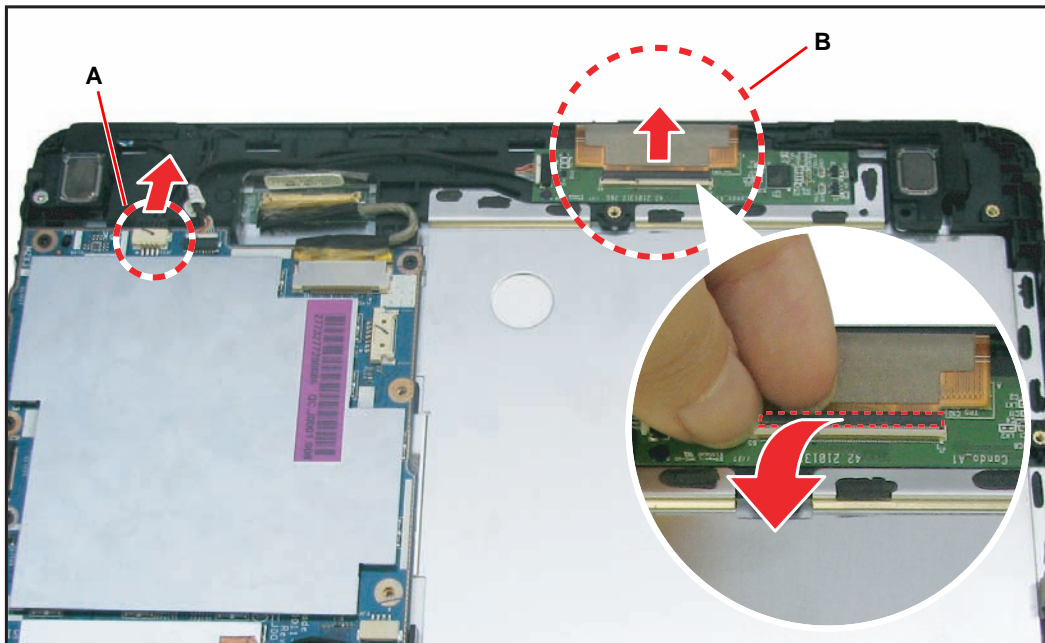

Figure 3:42. Disconnecting the Speakers and Touch Module Cables
4. Disconnect the touch module cable (B) and release the speakers cable from the guides. (Figure 3:41)